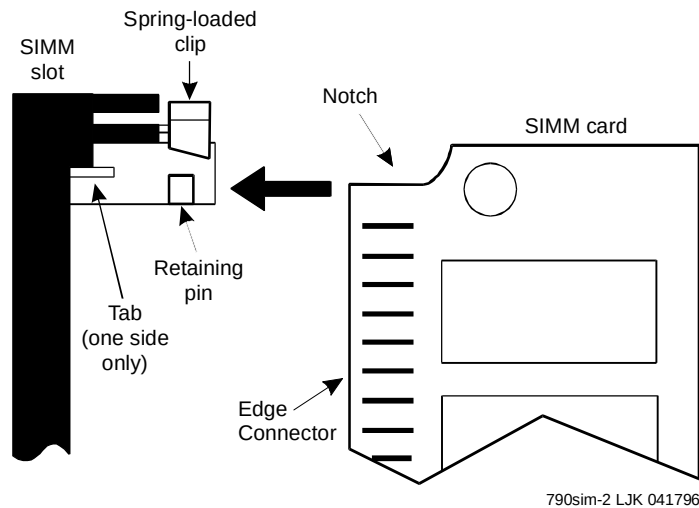

Figure 5-3. Align the SIMM with the SIMM Socket
3. Locate the notch cutout area on one corner of the SIMM. See Figure 5-3.
4. Align the SIMM with the slot in the center of the socket. See Figure 5-3.